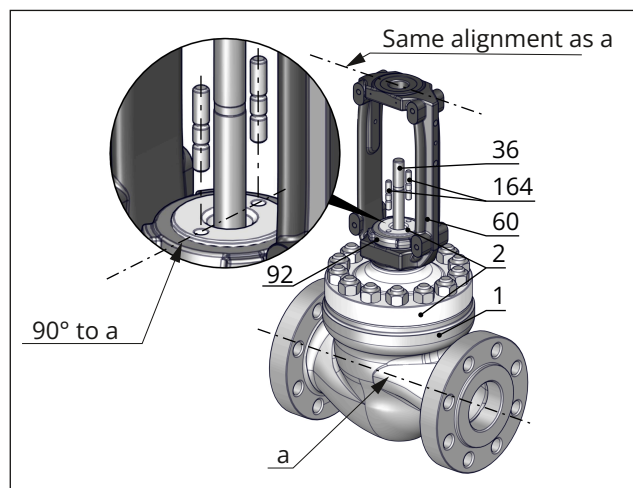

Fig. 33: Alignment of bonnet on the valve body and alignment of yoke on the bonnet
14. Insert the support element (63) (including the pressed-in bushing (7)) upright over the plug stem (36) into the body (1) until it rests on the seating surface inside the body. Use special tool for large nominal sizes.
15. Place a new spiral wound gasket (126) on the support element (63).
16. Insert a new spiral wound gasket (17) into the body (1).
17. Place the valve bonnet (2/21) including yoke (60) from the top over the plug stem (36) onto the body (1). Observe the alignment (see Fig. 33). The two boreholes on the top of the bonnet must be at a right angle to the pipeline axis.
18. Press the plug (5) firmly into the seat (4), while fastening down the valve bonnet (2/21) with the body nuts (14). Tighten the body nuts (14) gradually in a crisscross pattern. Observe tightening torques.
9. Place a new spiral wound gasket (17) on the valve body (1). Before inserting the gasket, clean the seating surface and check for damage.
10. Place a new spiral wound gasket (126) on the support element (63) or seat retainer (124). Before inserting the gasket, clean the seating surface and check for damage.
11. Place the valve bonnet (2/21) including yoke (60) from the top over the plug/piston stem (36) onto the body (1). Observe the alignment (see Fig. 33). The two boreholes on the top of the bonnet must be at a right angle to the pipeline axis.
12. Firmly press the plug/piston (5) into the seat (4), while fastening down the valve bonnet (2/21) with the body nuts (14). Tighten the body nuts (14) gradually in a crisscross pattern. Observe tightening torques.
13. Carefully slide the packing parts over the plug/piston stem (36) into the packing chamber using a suitable tool. Refer to the documentation of the spare packing for the correct sequence and alignment of the parts.
14. Screw in and hand-tighten threaded bushing (8).
15. Tighten threaded bushing (8) gradually applying the specified tightening torque.
11. Place a new spiral wound gasket (17) on the valve body (1). Before inserting the gasket, clean the seating surface and check for damage.
12. Place a new spiral wound gasket (126) on the support element (63) or seat retainer (124). Before inserting the gasket, clean the seating surface and check for damage.
13. Place the valve bonnet (2/21) including yoke (60) from the top over the plug/piston stem (36) onto the body (1). Observe the alignment (see Fig. 33). The two boreholes on the top of the
6. Insert the seat retainer (124) (including pressed-in bushing (7)) upright over the plug stem (36) into the body (1) and center them on the seat (4). Use special tool for large nominal sizes. Align the openings of the seat retainer (124) symmetrically with the pipeline axis.
7. Place a new spiral wound gasket (126) on the seat retainer (124).
8. Insert a new spiral wound gasket (17) into the body (1).
9. Place the valve bonnet (2/21) including yoke (60) from the top over the plug stem (36) onto the body (1). Observe the alignment (see Fig. 33). The two boreholes on the top of the bonnet must be at a right angle to the pipeline axis.
10. Press the plug (5) firmly into the seat (4), while fastening down the valve bonnet (2/21) with the body nuts (14). Tighten the body nuts (14) gradually in a crisscross pattern. Observe tightening torques.